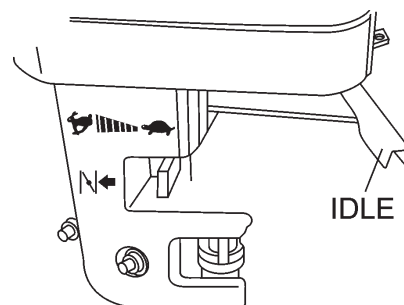

Figure 17. Throttle Lever (Idle)
1. Move the throttle lever to the **IDLE** position (Figure 17) and run the engine for three minutes at low speed.